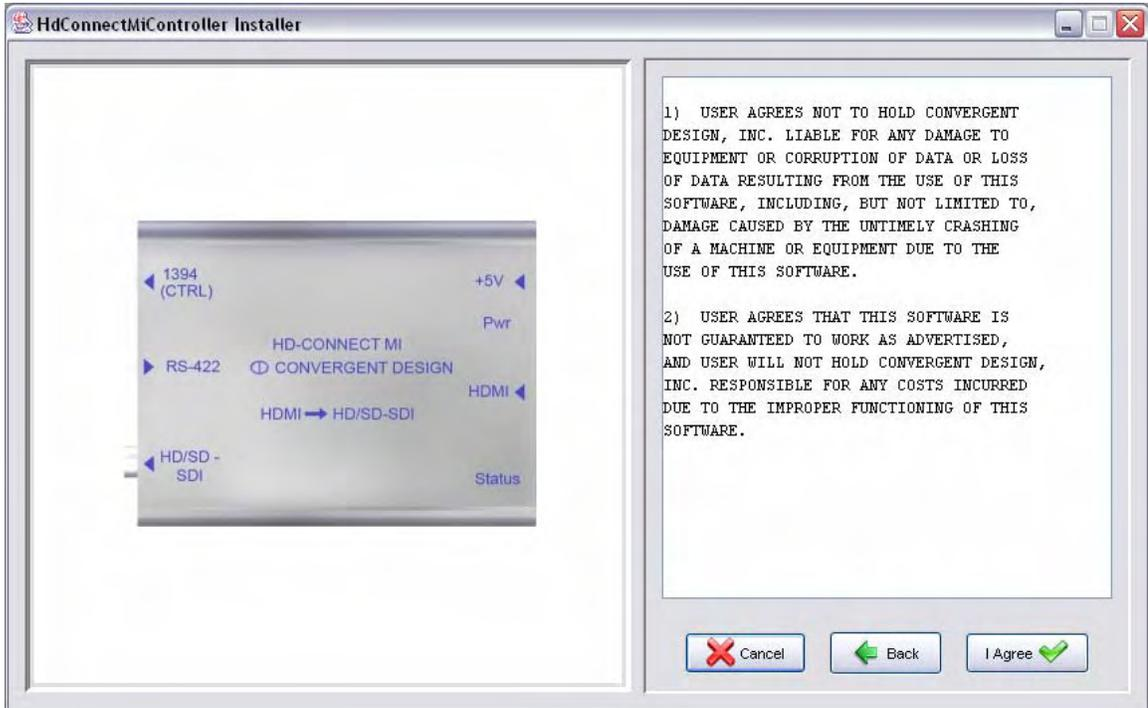

Figure 9 Installing the Control Application the PC & Mac
- 2) Install the update and control application by running the installation file. Figure 9 shows the installation process.